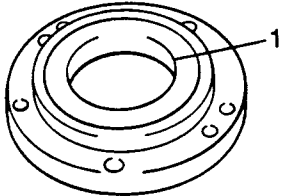

Fig H1.56
- (2) Refer to Fig H1.56. Remove the oil seal (1).